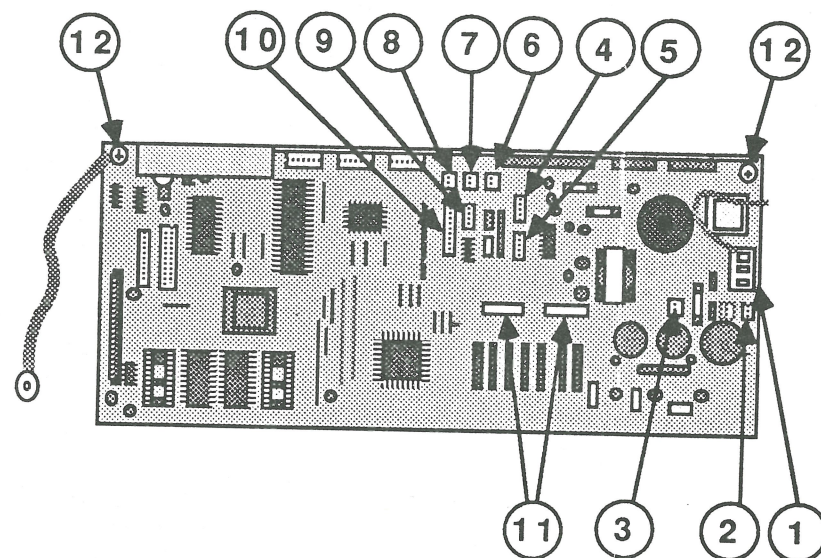

FIGURE 26
- Power supply cable from CN1 (Figure 26, #1)
- Auto load solenoid cable from CN8 (Figure 26, #2)
- Cut sheet feeder switch cable from CN11 (Figure 26, #3)
- Carrier motor cable from CN5 (Figure 26, #4)
- Paper-out sensor cable from CN9 (Figure 26, #5)
- Paper handling change switch cable from CN12 (Figure 26, #6)
- Platen gap adjustment sensor cable from CN18 (Figure 26, #7)
- Home position switch cable from CN10 (Figure 26, #8)
- Paper feed motor cable from CN6 (Figure 26, #9)
- Color ribbon assembly cable from CN7 (Figure 26, #10)
- Print head flexible relay PCBs from CN3 and CN4 (Figure 26, #11)
4. Remove the two Phillips screws (Figure 26, #12) securing the main board to the base of the printer.